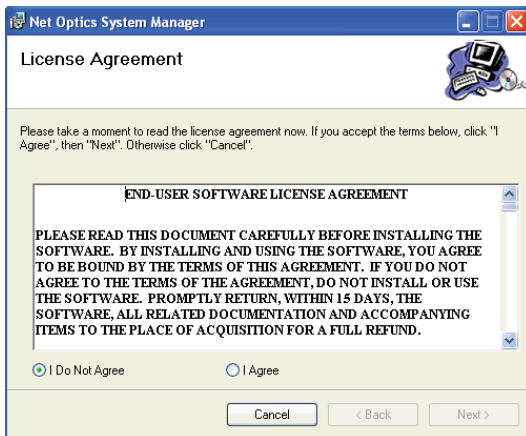

Figure 19: Net Optics System Manager License Agreement
1. Locate **Setup.exe** on the CD and double click it. The License Agreement dialog box appears as shown in Figure 19.